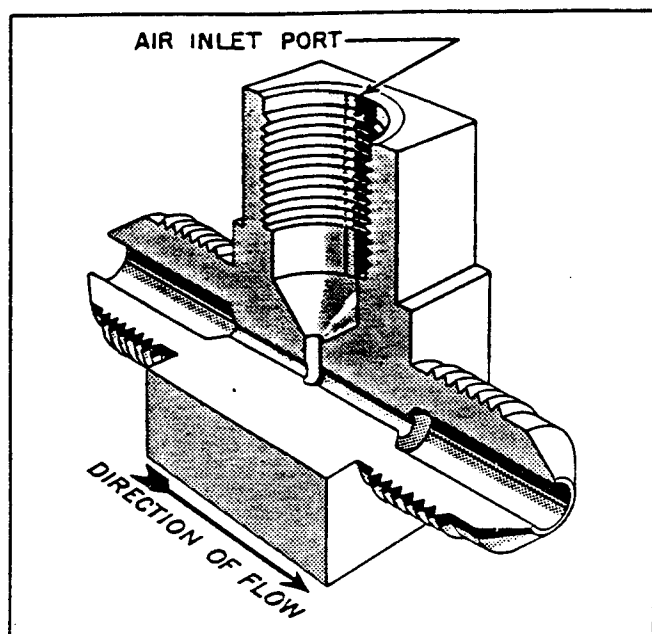

Figure 13. Reservoir Aspirator
(5) RESERVOIR ASPIRATOR. (See figure 13.)